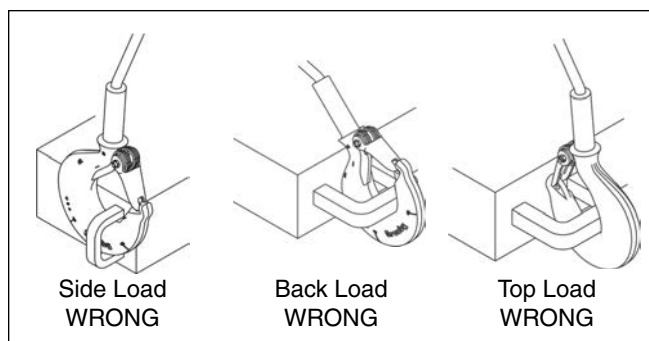

Figure 2
- See OSHA Rule 1926.1431(g)(1)(i)(A) and 1926.1501(g)(4)(iv)(B) for personnel hoisting for cranes and derricks. Only a Crosby or McKissick hook with a PL Latch attached and secured with bolt, nut and cotter (or Crosby Toggle Pin) or a Crosby hook with a S-4320 Latch attached and secured with a cotter pin, or a Crosby SHUR-LOC® hook in the locked position may be used for any personnel hoisting. A hook with a Crosby SS-4055 latch attached shall NOT be used for personnel lifting.
- Never side load, back load, or tip load a hook. (See Figure 2).